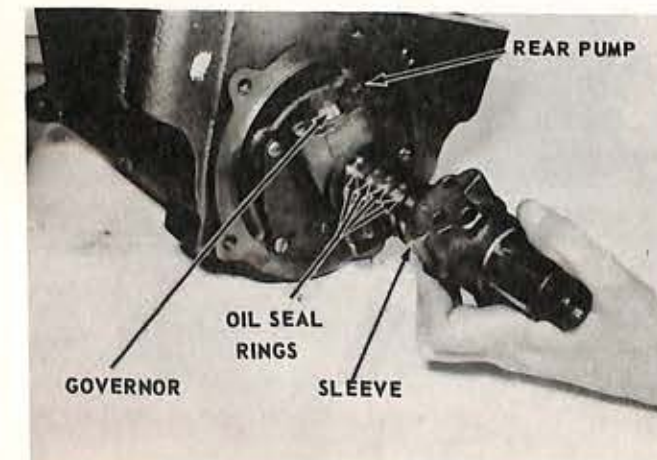

Fig. 45
2. Remove the distributor sleeve from the output shaft, exercising care not to damage the oil seal rings (Fig. 45).